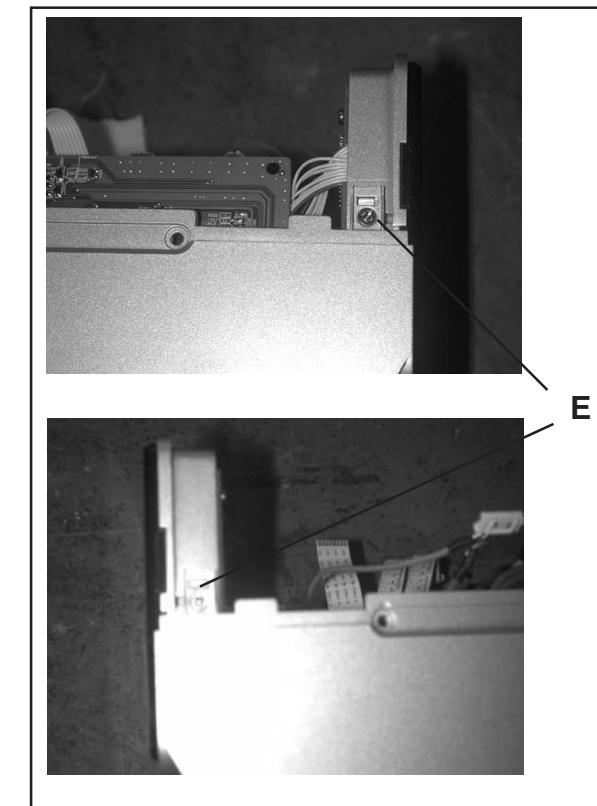

Figure 5
- 1) Loosen 2 screws " E" on left/right sides of the bottom cover as shown in Figure 5.